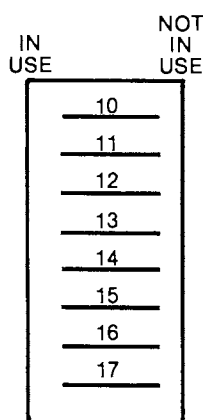

Fig. 8 — Station Switches Assignments (Applicable on KMC-308M Systems only).
4.05 When using the CM-8 console, the STATION SWITCHES on the KMC-308M must be set in accordance with the two-digit code of the lines or stations connected to the KMC-308M modular receptacles. For each line or station connected, set the corresponding switch to the IN USE position. For each station or line not connected, set the corresponding switch to the NOT IN USE position. It is important to ensure that these switches are set correctly, so that proper indication of line status appears at the CM-8 console. Refer to Figure 2 for location of STATION SWITCHES on the KMC-308M, and to Figure 8 for assignments of the switches.